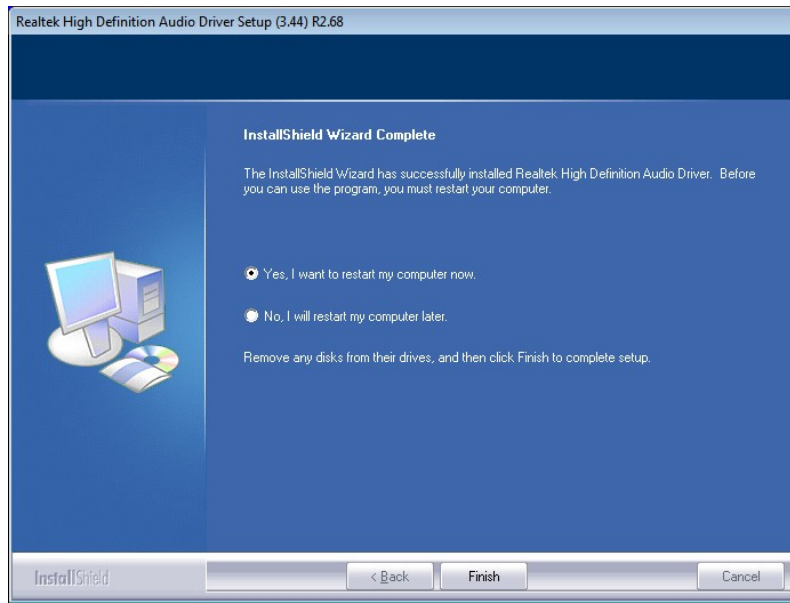

Figure 6-18: Audio Driver Installation Complete
Step 8: When the driver installation is complete, the screen in **Figure 6-18** appears.